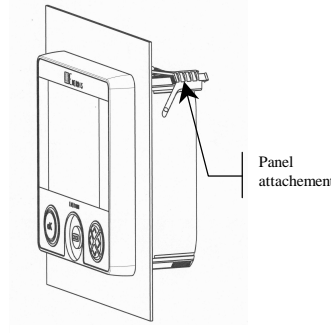

Figure 2
1. Withdraw the four panel attachments. To withdraw a panel attachment, lift the front before sliding it. (figure 2)
4. Slide the four panel attachments and push them until they hold the Enerium securely. (Figure 2)